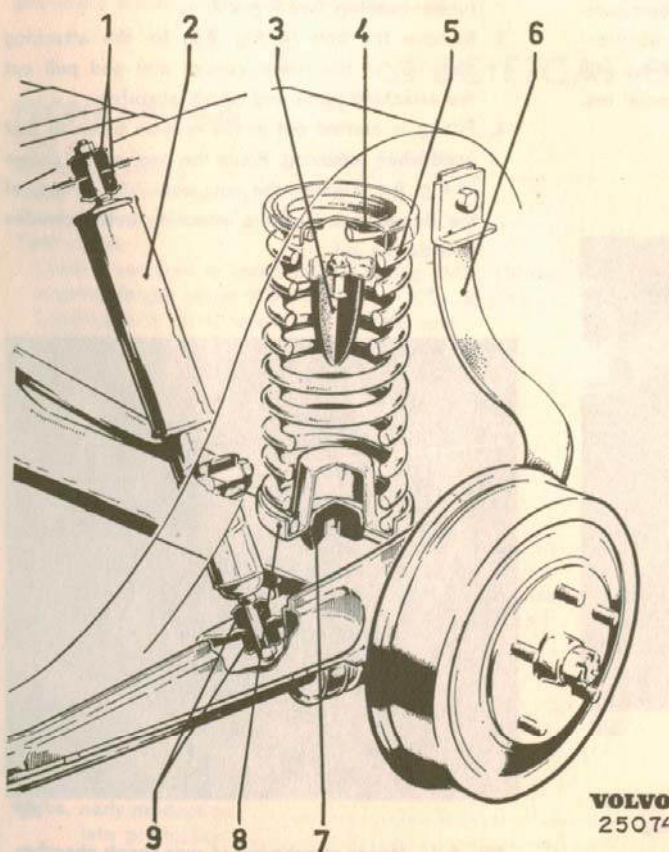

Fig. 9-5. Rear spring and shock absorber
Fitting is carried out in the reverse order to that used in removing. Make sure that the rubber pad (7, Fig. 9-5) and the rubber spacer (4) come in the correct position.
3. Fitting is carried out in the reverse order to that used when removing. See Fig. 9-5. Fit the washer with the larger hole on the inside of the lower rubber bushing. Tighten the nuts until 1/8" (3 mm) of the threaded end of the attaching bolt protrudes. On late production shock absorbers of Gabriel manufacture, which have longer attaching bolts (52 mm = 2 1/16"), the above-mentioned measurement should, however, be 11 mm (7/16").